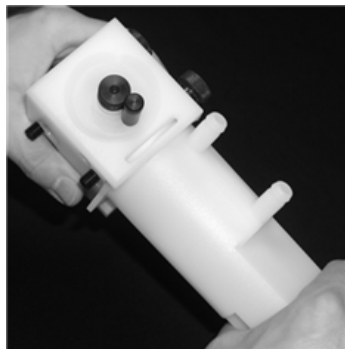

Figure 72. Lock the trap into position
- 1 Hold the nebulizer block/spray chamber assembly upside down so that the float falls clear of the hand and screw the new drain tube into the nebulizer block - see Figure 72 on page 109.